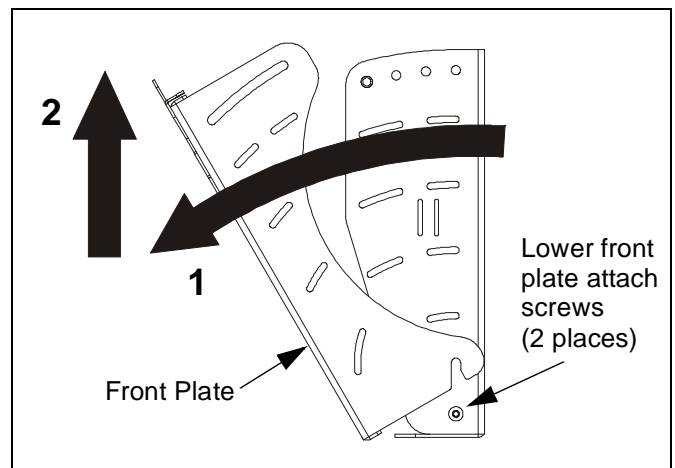

Figure 4: Remove Front Plate
2. Tilt front plate away from wall and then lift out of lower front plate attach screws (See Figure 4). Place front plate on protective surface.